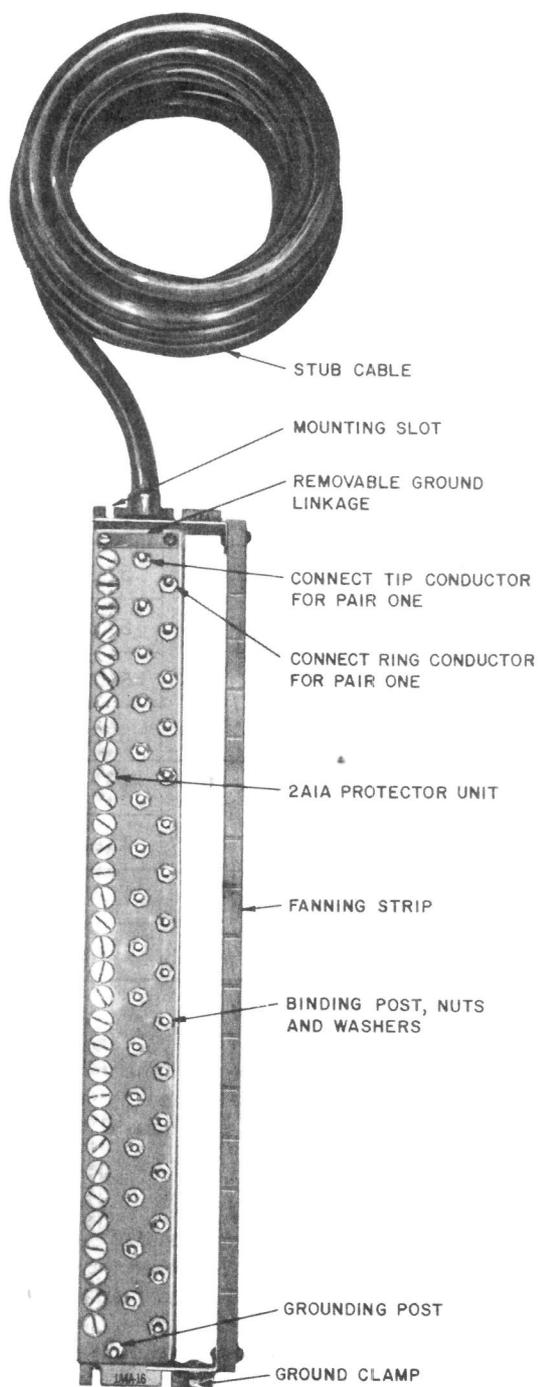

Fig. 11—1A4A-16 Terminal Block
**3.14** The 1A4A-type terminal blocks are gastight cast-resin blocks equipped with binding posts, 2A1A protector units, fanning strip, ground clamp, and a removable linkage feature. The terminal blocks are available in 10-, 16-, 25- and 50-pair sizes (see Table C). The terminal blocks may be mounted in cable terminal boxes or cable terminal sections. The removable ground linkage provides a means of establishing an insulating joint, for corrosion reasons, between the lead stub and the grounds within the terminal block. The fanning strip provides a means of fanning out the connecting wires. The ground clamp permits the connection of a station protector ground. The 1A4A-type terminal blocks should be grounded with a wire no smaller than a No. 6 ground wire (see Table B). Fig. 11 shows a 1A4A-16 terminal block.